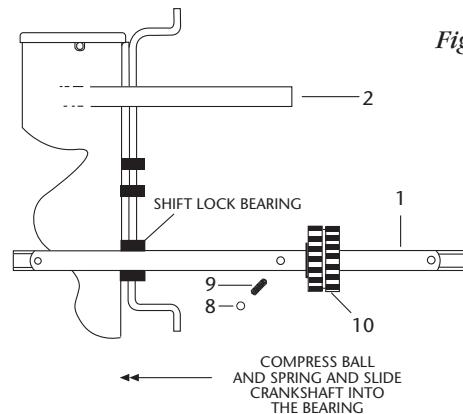

Figure 13
- While compressing the ball and spring into the hole, carefully slide the crankshaft into the shift lock bearing of the gearbox as shown in **Figure 13**. The ball and spring should be captured under the bearing surface. Push the crankshaft into the gearbox until it is engaged in low gear.